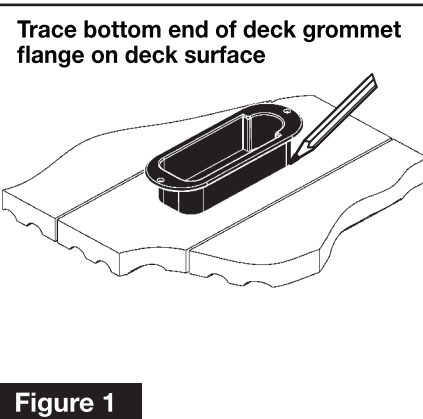

Figure 1
2. Using the bottom edge of the flange as a template, center the flange between one deck board's width and trace the cutout shape onto the deck board with a marking tool (Figure 1).